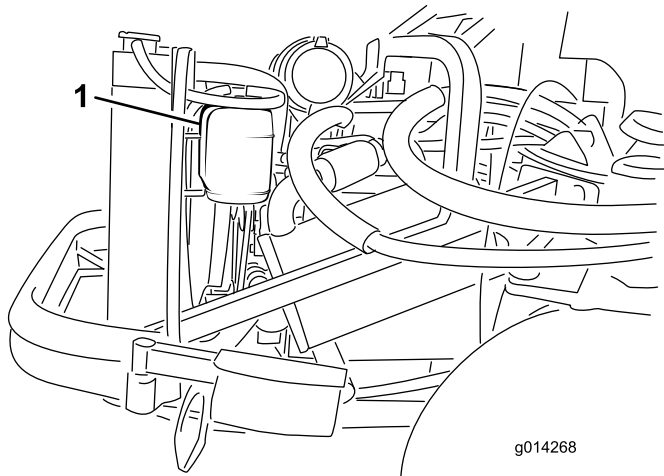

Figure 82
1. Check the level of the coolant in the expansion tank (Figure 82). The coolant level should be between the marks on the side of the tank.